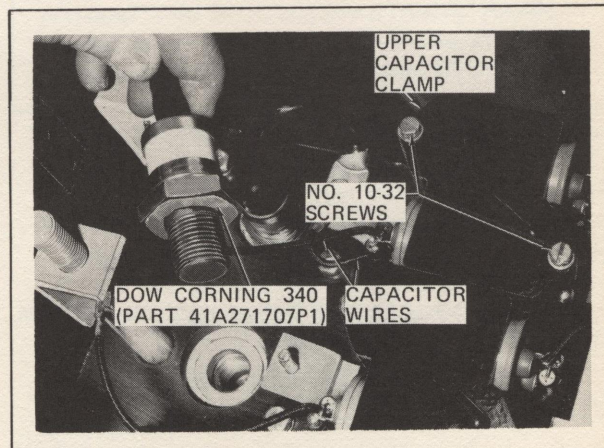

FIG. III-34. TYPICAL APPLICATION OF DOW CORNING 340.
1. Apply a light film of Dow Corning 340* (Part 41A271707-P1) to the diode mounting face only, as shown in Fig. III-34.